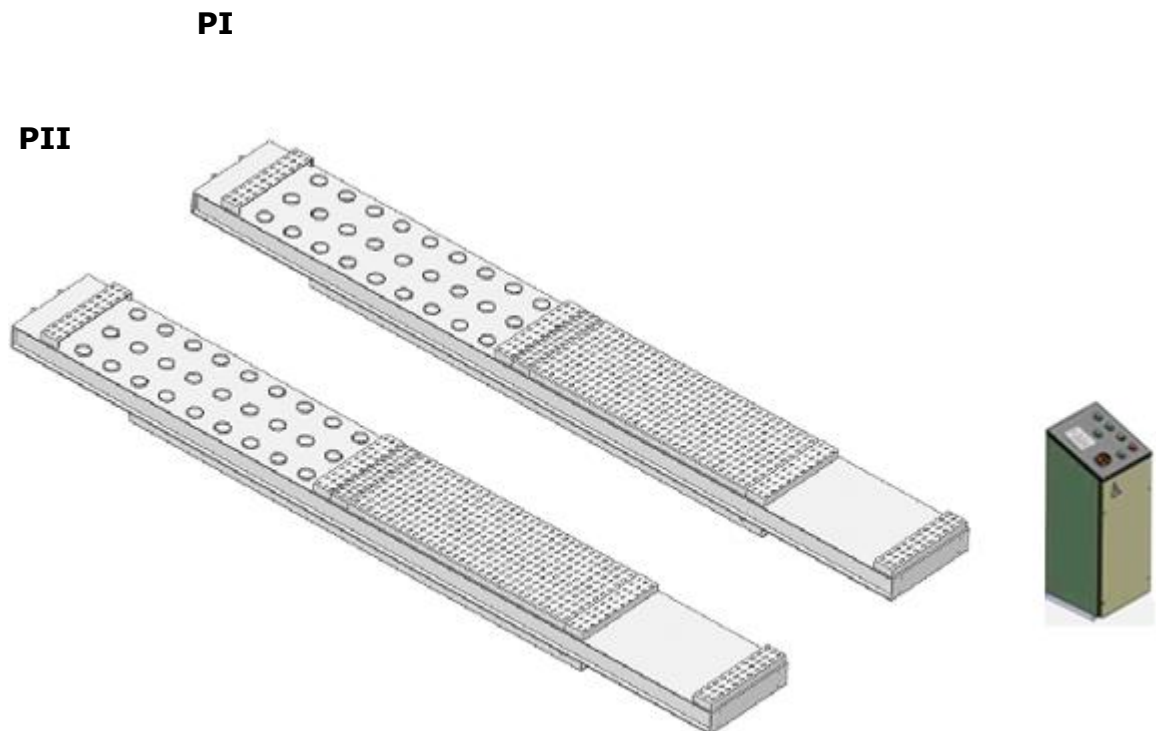

Fig. 13
1. Select a location and lay out the lift according to steps **A** (See Fig. 13).